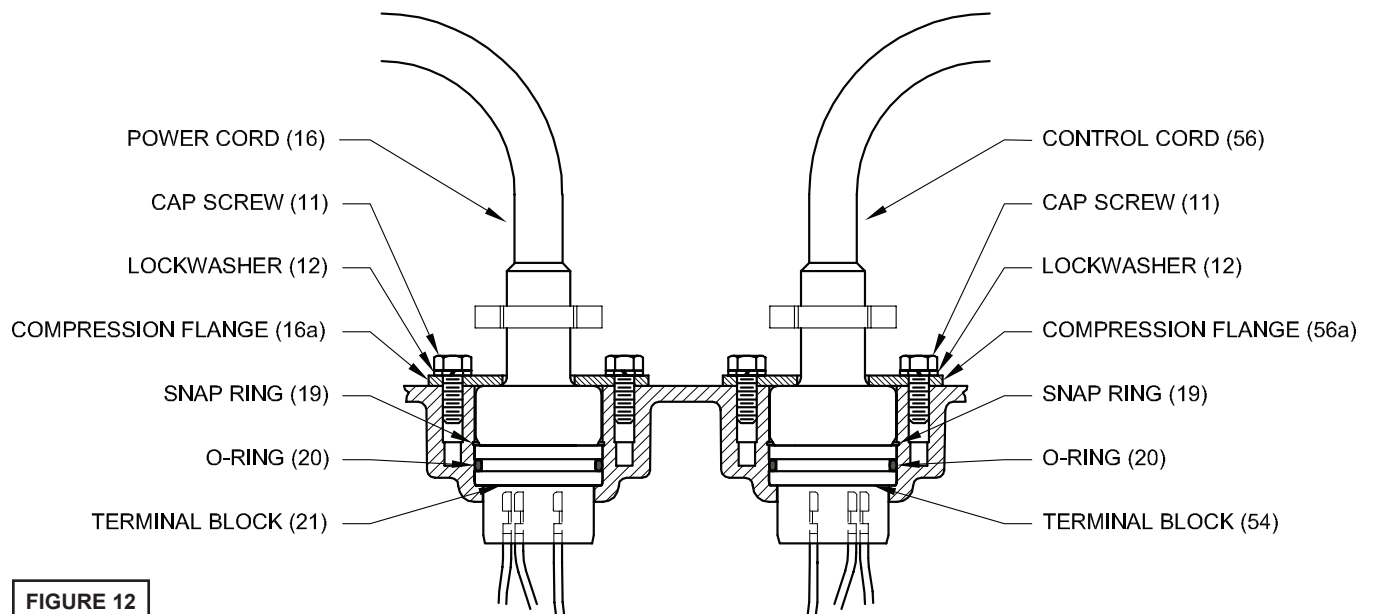

FIGURE 12
Check power cords (16) and control cord (56, if used), for cracks or damage and replace if required (see Figure 12). Make internal wiring connections which are independent of the terminal block as shown, using connectors (48) and wire assemblies (49) as required. Do not use wire nuts. Slip motor leads and ground wire into fiberglass sleeve. Lower motor housing (6) down onto seal plate (5) while aligning holes and stringing motor leads through the cord entry bore(s). (Slipping cords inside a 1 ft. length of .5" conduit makes this easier). Place socket head cap screws (47) through seal plate (5) into motor housing (6) and torque to 60 in-lbs. Reconnect motor and optional control leads to the underside of the terminal block(s) (21), (54 optional) as shown in Figure 14. Note that the pins are numbered underneath the terminal block. Place o-ring (20) into groove in terminal block and lubricate with dielectric oil. Press the terminal block (21) into the housing so it seats